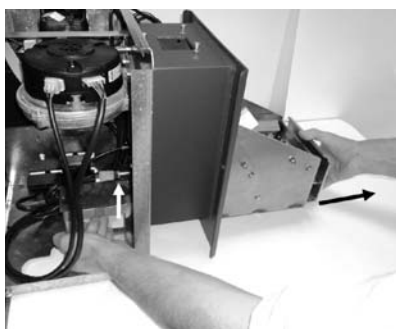

Figure 11-13: Manual opening of brazier
- Insert the brazier clearance gauge plate (supplied with the boiler) between the brazier chassis and brazier base assembly. Refer to Figure 11-13.